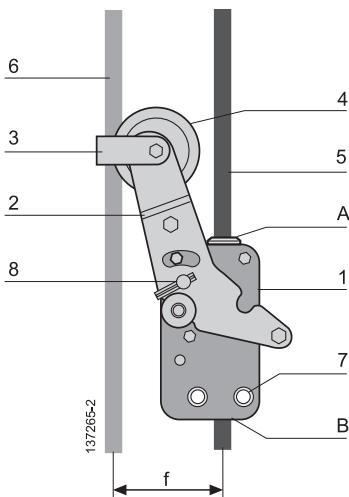

Fig. 1
The Blocstop™ type BSA fall arrest device (fig.1) is formed by a zinc-plated steel housing (item 1, fig. 1) and a zinc-plated steel lever (item 2, fig. 1) with a zinc-plated steel detection roller (item 4, fig. 1) mounted at its end. The fall arrest device is rigidly mounted on the suspended platform by 2 screws + self-locking nuts mounted beforehand in the holes (item 7, fig. 1). The lever (item 2, fig. 1) is rotated to open and close the jaws.
The fall arrest device operates automatically, and depends only on the distance  $f$  (see fig.1) between the lifting wire rope (item 6, fig. 1) used to lift the suspended platform and the safety wire rope (item 5, fig. 1) which runs through the unit (item 1, fig. 1).
- when the lifting wire rope (item 6, fig. 1) is tensioned, the lever (item 2, fig. 1) keeps the jaws opened and the safety wire rope (item 5, fig. 1) slides freely in the unit (fig.7),
- when the lifting wire rope (item 6, fig. 1) is slack, the lever (item 2, fig. 6), pushed by its return spring in the housing (item 1, fig. 6) swivels, causing the jaws to clamp on the safety wire rope (item 5, fig. 1). The suspended platform is immediately stopped on the side on which the fall arrest device is installed.
Actuation of the lever (item 2, fig. 1) can be caused by:
The zinc-plated steel wire rope guide (item 3, fig. 1) ensures that the lifting wire rope (item 6) is always in contact with the roller (item 4, fig. 1).
**IMPORTANT:** Each fall arrest device is factory-adjusted (position of lever (item 2, fig. 1) with respect to housing (item 1, fig. 1)) by means of a screw and a locknut. It is prohibited to change the adjustment of the lever with respect to the housing.